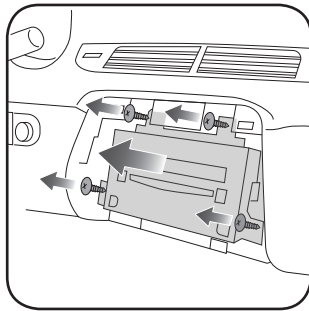

Fig. 2.2
3. Remove (4) 7mm screws holding the OEM radio in the dash. Unclip the radio and remove it. (Fig. 2.2)